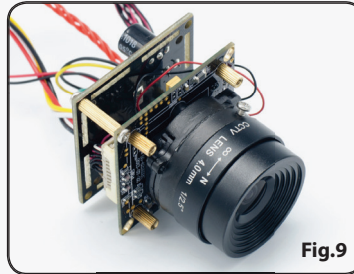

Fig.9
Step 7: Please take the new wide-angle lens and mount it in the lens mount by turning it clockwise. Screw it all the way in and fasten the fixing screw on the lens mount in order to secure the lens (**Fig. 9**).
Step 8: After the installation you will need to adjust the focal point of the lens. To do so you need to untighten the fixing screw on the outer ring of the lens (**Fig. 9**). Now connect the camera to your network and open the camera's web interface in your web browser. While keeping an eye on the camera's live video, slowly turn the front part of the lens to the left or to the right until you get a sharp and clear image. Once done please fasten the fixing screw to keep this setting.